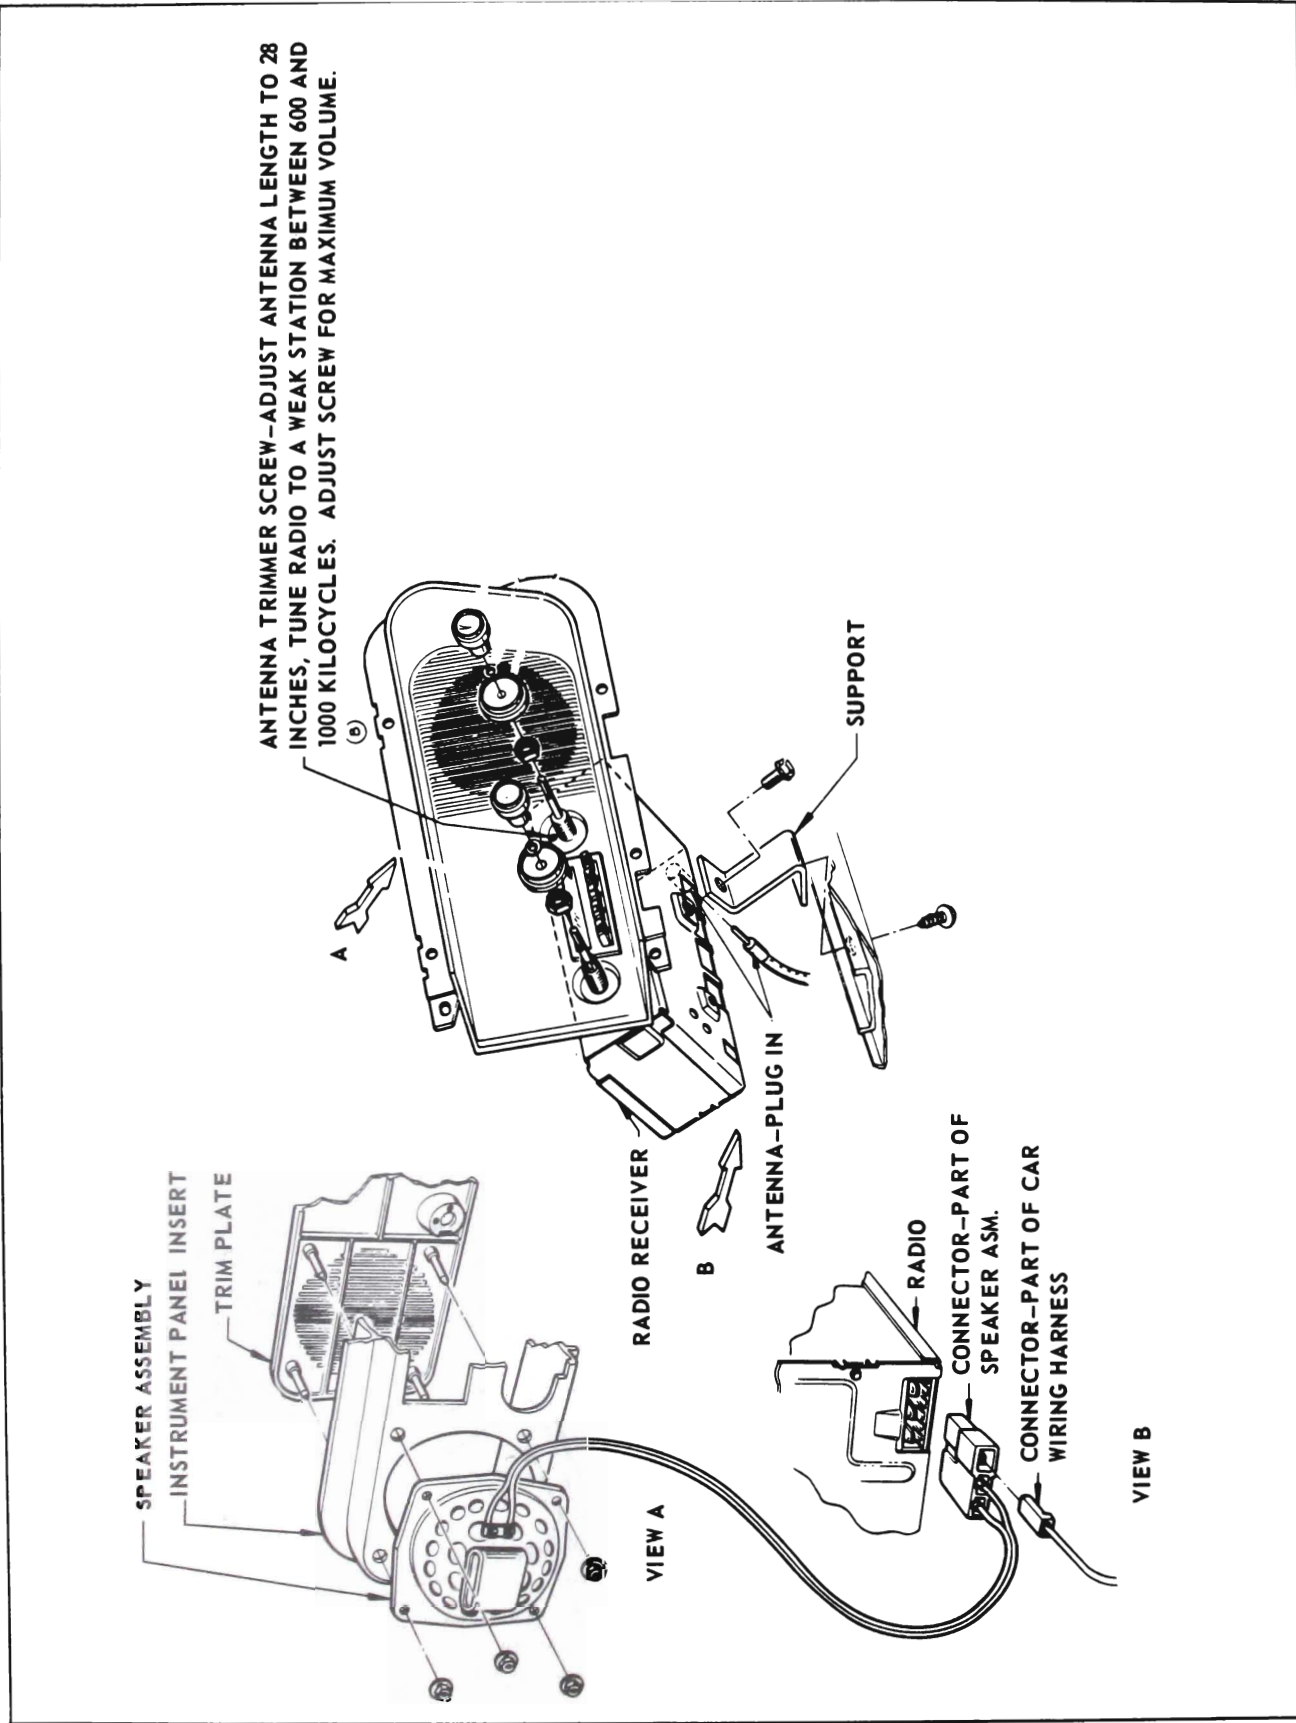

Figure 11-3—Radio Receiver and Speaker Installation
(c) Remove both right inner and outer knobs from radio tuning control shaft and adjust trimmer screw for maximum volume (see Figure 11-3).
2. Remove five screws and take out exterior cover assembly (see Figure 11-3).
3. Remove both right inner and outer knobs from radio tuning control shaft and turn antenna trimmer screw for maximum volume (see Figure 11-3).